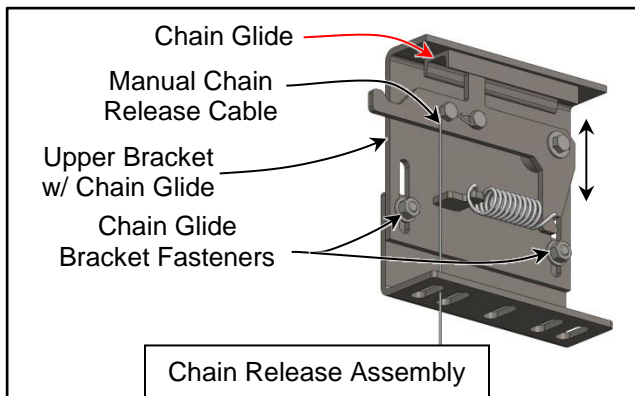

Figure 46
6. Re-check the height of the chain glide relative to the chain and adjust if necessary. Tighten the chain glide bracket fasteners to 15 ft-lbs. (See Figure 46)
7. Reattach the Manual Chain Release Cable around the 2 bolts on the Chain Release Assembly Bracket pivot arm as shown so it is taut. Torque the bolts to approximately 4 ft-lbs. Test the Manual Chain Release Handle to confirm it is working properly. (See Figure 46)